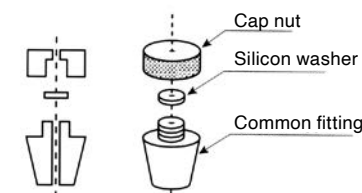

Figure 8: Stopper
- Remove the silicon rubber and insert the syringe needle through the stopper attached to the side valve of the titration cell (Figure 8). Inject the sample.